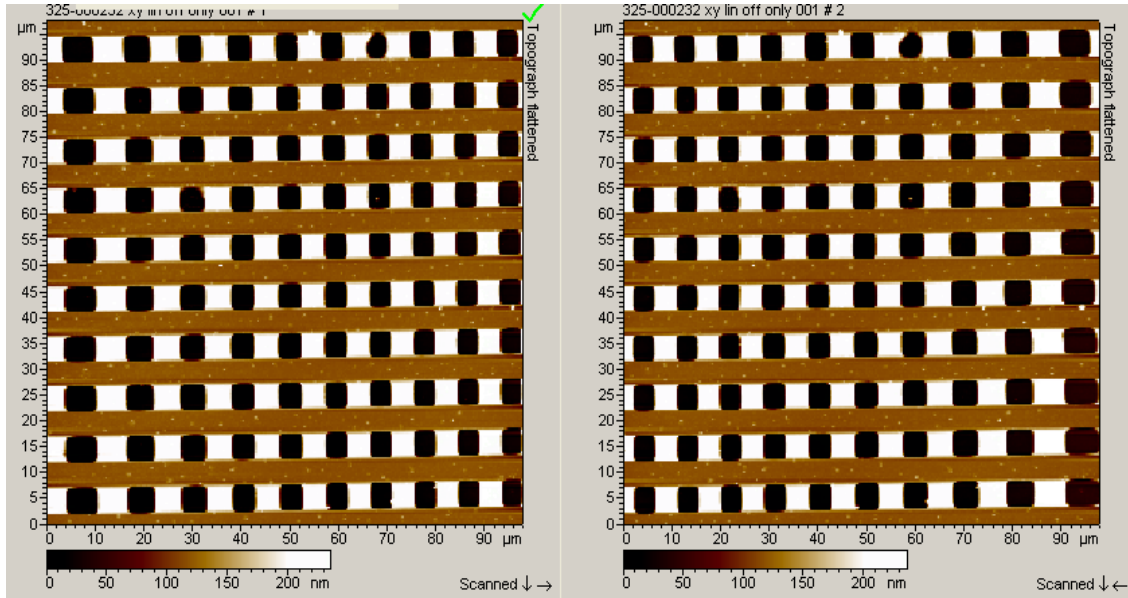

Fig. 2.4 Trace and retrace topography images of a standard grating showing effect of non-linearity in a scanner
- As a result of this, a standard grating imaged with a non-linear scanner looks as shown in Fig. 2.4 below. The size of the pits is not uniform across the scan range.